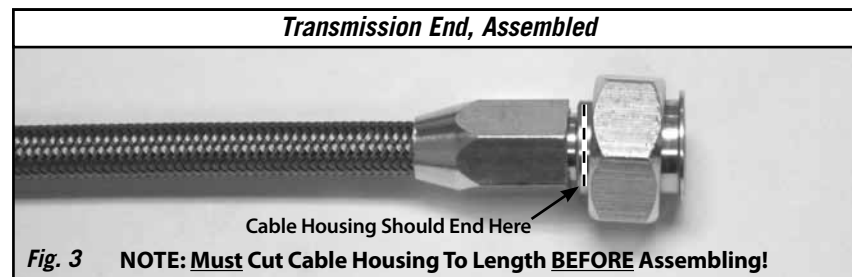

Fig. 3
Step 4: Make sure the end of the cable housing stops at the edge of the larger diameter section inside the trans end fitting, as shown in Fig. 3. Thread the compression nut onto the trans end fitting and tighten it until the cable housing is locked into the trans end fitting. **DO NOT** assemble the trans end fitting until after the cable housing has been cut to length!